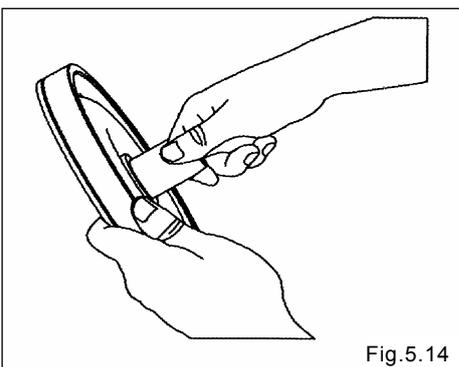

Fig.5.14
- Remove the center rod from the diaphragm. [Fig. 5.14]